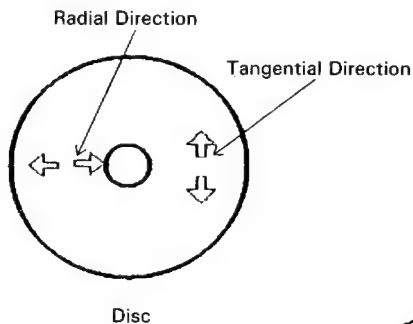

Fig. 8
*Note : Radial and tangential mean the directions relative to the disc shown in Fig. 8.*